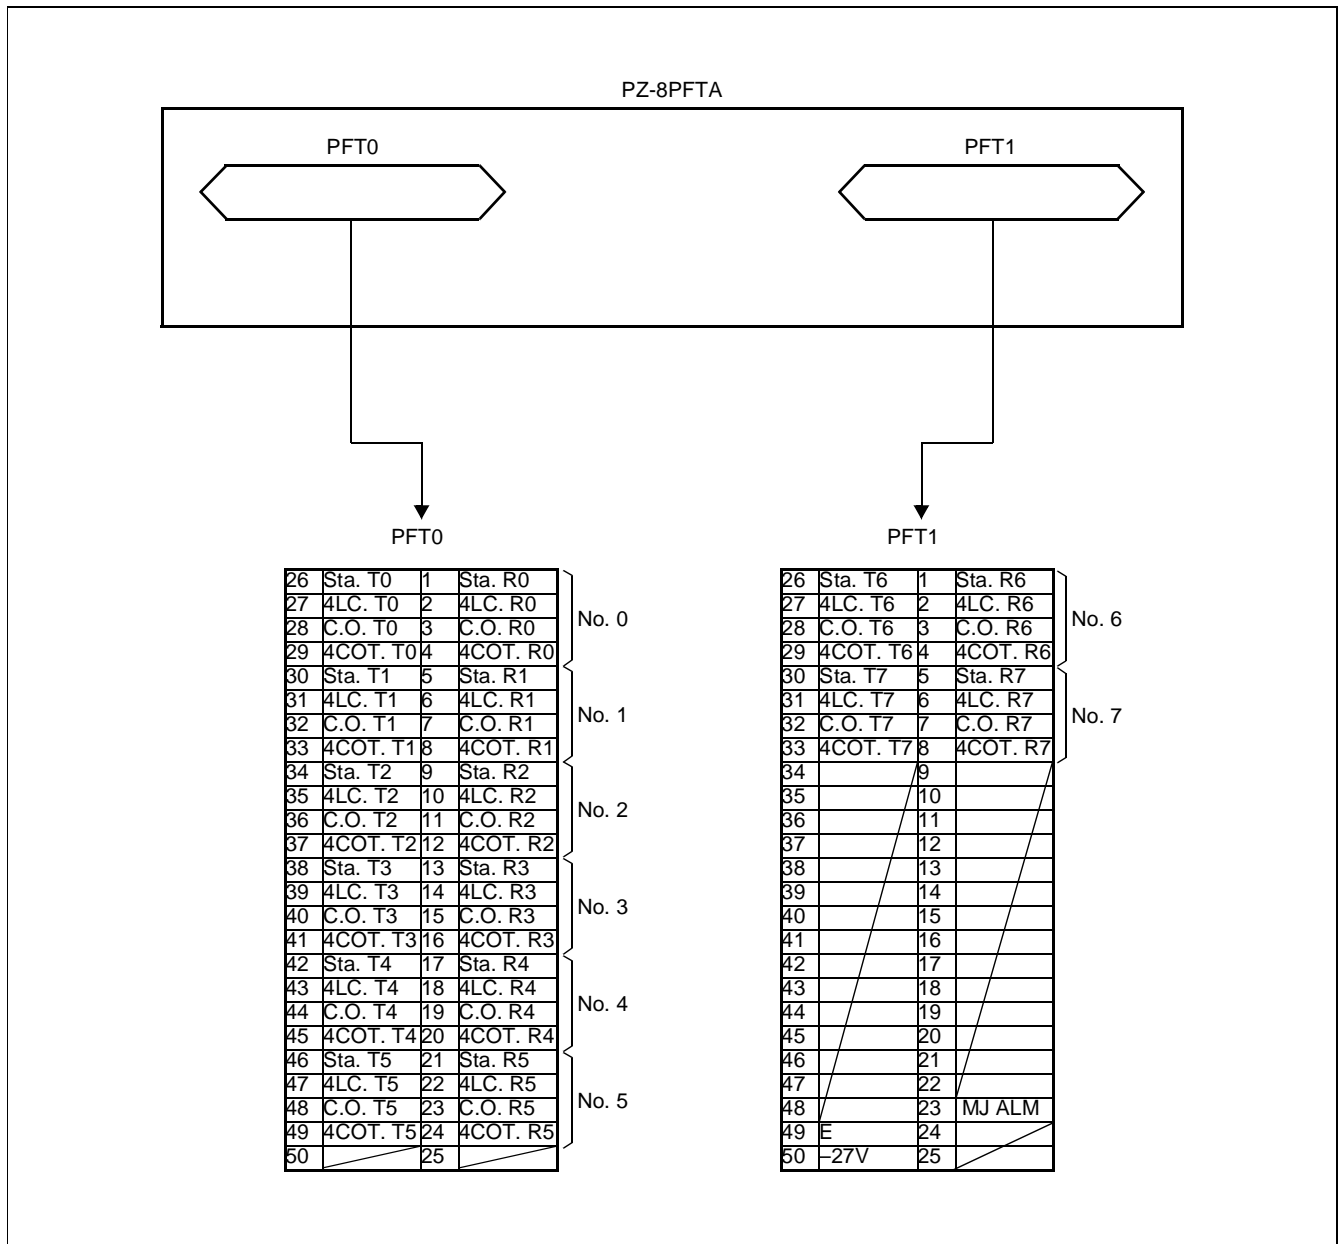

Figure 3-35 PFT Connector Pin Assignment
STEP 3: Connect the 25-pair cables on the MDF referring to Figure 3-35 and Figure 3-36.
- Figure 3-35 shows the PFT connector pin assignment for each PFT circuit number (No. 0 - No. 7).